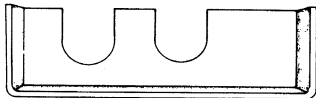

Figure 5. EC71D/18S Terminal Cover Cut-Out
3. For EC71D/18S, cut out terminal cover for wiring; replace terminal cover and tighten terminal screw (see Figure 5).